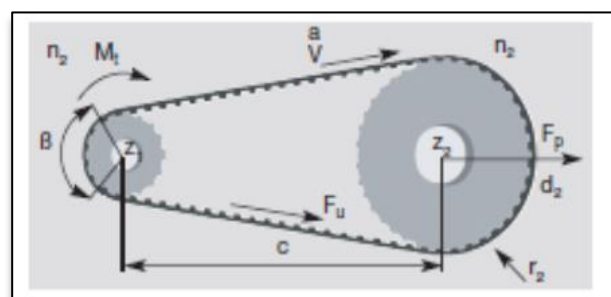

Figure 18
**Megaflex for power transmission and Megapower (Figure 18)**